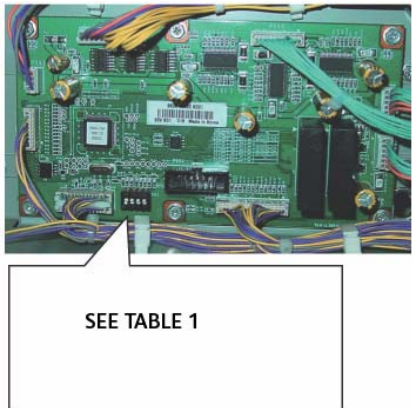

Figure 1 Tray Module PWB switch settings
3. After replacement, set the switch of the Tray Module PWB as follows. (Figure 1)